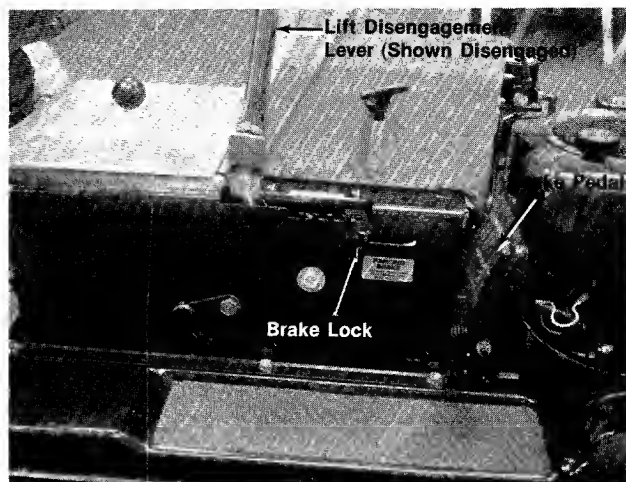

FIGURE 8. RIGHT HAND CONTROLS
c. **Brake.** The brake pedal is located on the right hand side of the mower and is operated by depressing it with your right foot. See figure 8.
d. **Brake Lock.** The brake lock is located on the right hand side of the mower. To lock the brake, depress the brake pedal and lift up the lock button. The pedal will stay depressed. To release, depress the pedal. See figure 8.
k. **Lift and Disengagement Lever.** It is used to raise the cutting deck. Pulling it all the way back and locking it disengages the blades. The engine will not start unless the lift and disengagement lever is in the disengaged position. See figure 8.
- Step 3. Place the lift and disengagement lever in the **DISENGAGED** position. See figure 8.
To stop the blades, move the lift and disengagement lever (figure 8) into the DISENGAGED position. This raises the deck and disengages the blades.